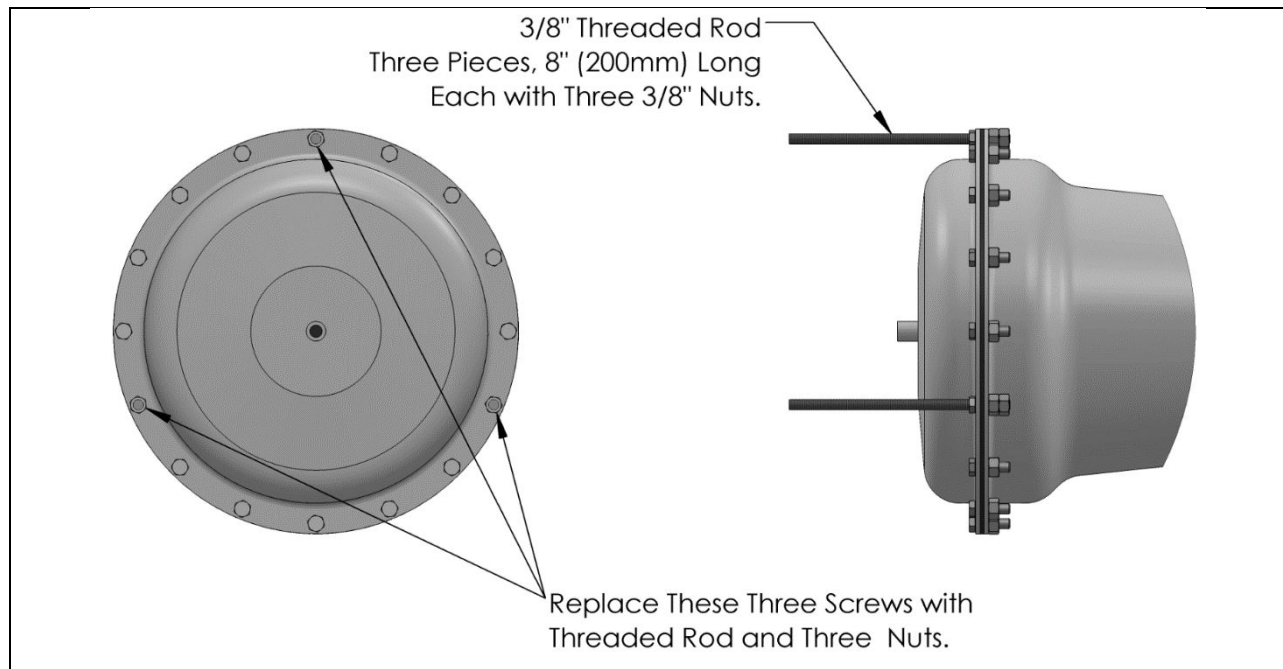

Figure 2—Stud Requirements For Diaphragm Cover Removal
7. Remove three screws (B2), nuts (B3), and washers (B38) from the diaphragm cover (B1). The three screws removed must be equally spaced as shown in Figure 2.
8. Obtain three 3/8" diameter threaded rods, each at least 8" (200 mm) long, and nine 3/8" nuts. As shown in Figure 2, assemble one rod and three nuts in each of the holes from which the screws were removed in the previous step. Jam the double nuts together by tightening to 26 ± 3 foot pounds (35 ± 4 Nm); tighten the single nuts finger tight against the cover.